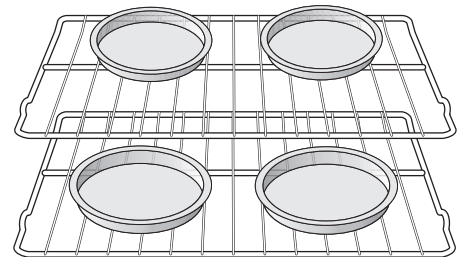

Figure 17: Pan spacing for best results
- When placing multiple food items in the oven allow 2 - 4 inches (5-10cm) of space between the food items for proper air circulation. (Figure 17).